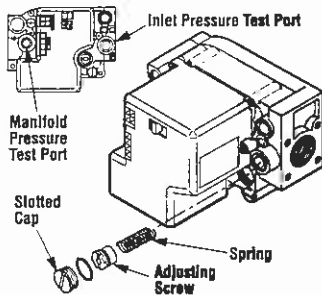

Figure 59
Step 7. Honeywell Electronic Valves - See *Figure 59* and the instructions provided with the kit. Remove the slotted cap screw, o-ring, pressure-regulating adjusting screw and spring. Retain all parts for possible later use. Install new components from the kit. Black cap and red spring for propane gas units. Silver cap and stainless steel spring for natural gas units. Before installing the cap, attach manometer to the manifold side pressure test fitting and adjust screw until pressure reads 3.5 inches water column (0.87 kPa) for natural gas, and 10.0 inches water column (2.49kPa) for propane gas.